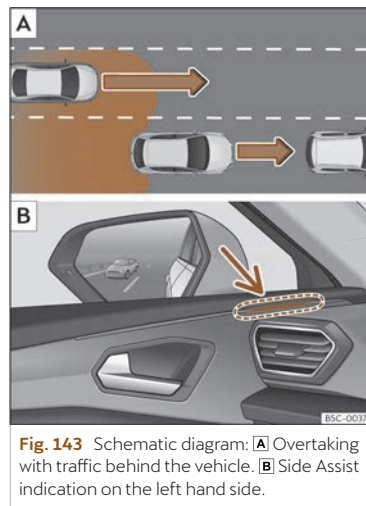
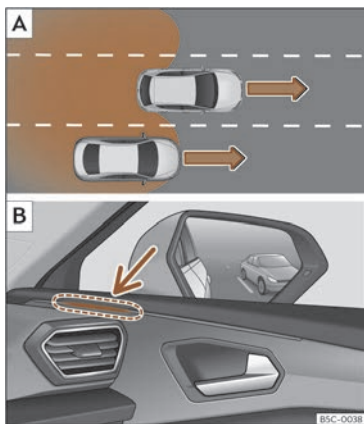

Fig. 143 Schematic diagram: **A** Overtaking with traffic behind the vehicle. **B** Side Assist indication on the left hand side.
Fig. 144 Schematic diagram: **A** Overtaking in the central lane and then joining the right lane. **B** Side Assist indication on the right hand side.
In the following situations, an indication will be displayed in the control lamp >>> **Fig. 143 B** (arrow) or >>> **Fig. 144 B** (arrow):
- When being overtaken by another vehicle >>> **Fig. 143 A**.
- When passing another vehicle >>> **Fig. 144 A** with a speed differential of approx. 10 km/h (6 mph). If the vehicle is passing at a considerably higher speed, no indication will be displayed.